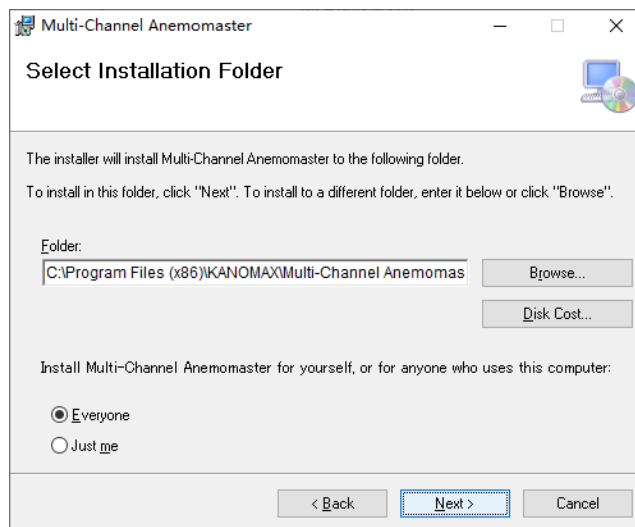

Figure 2-2 Select Installation Folder Dialog Box
2) Click the **(N)** button to display the dialog box as shown in Figure 2-2. The default location to install is the C drive. To install into a different drive or a folder, click "Browse..." and choose the required location.